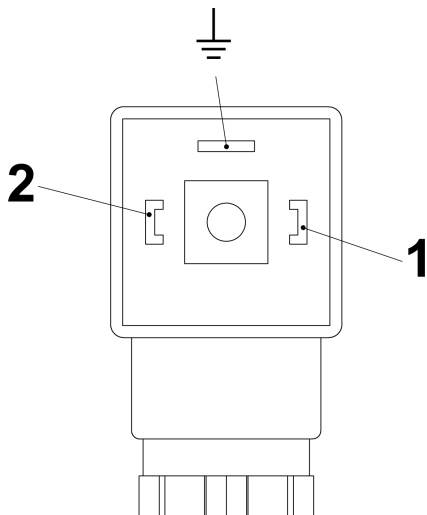
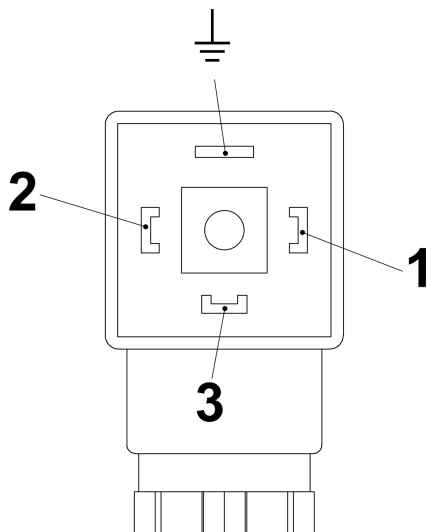

Fig. 26: Pin assignment, plug socket, normally-open contact (SG-30 with connector in compliance with EN175301-803)
Fig. 27: Pin assignment, plug socket, change-over contact (SG-30 with connector in compliance with EN175301-803)
6. ➤ Make the connections as shown in the connection diagrams (Fig. 26 and Fig. 27).